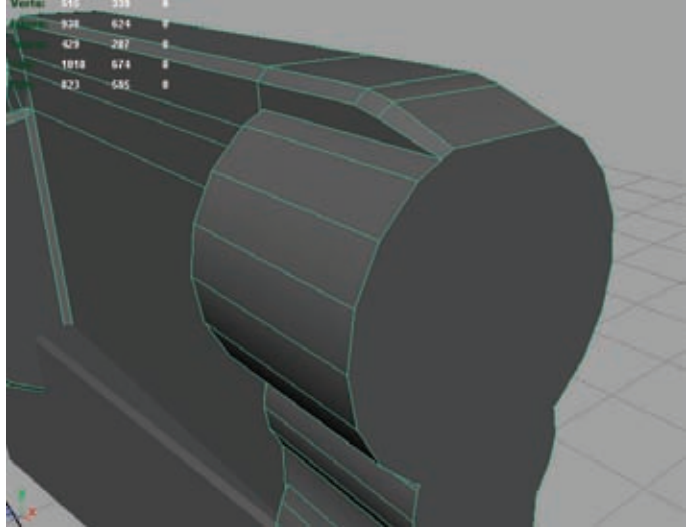

Figure 3.31
18. Make any geometry cleanup or adjustments to the shape that you want. When you're done, you should have something like Figure 3.31.